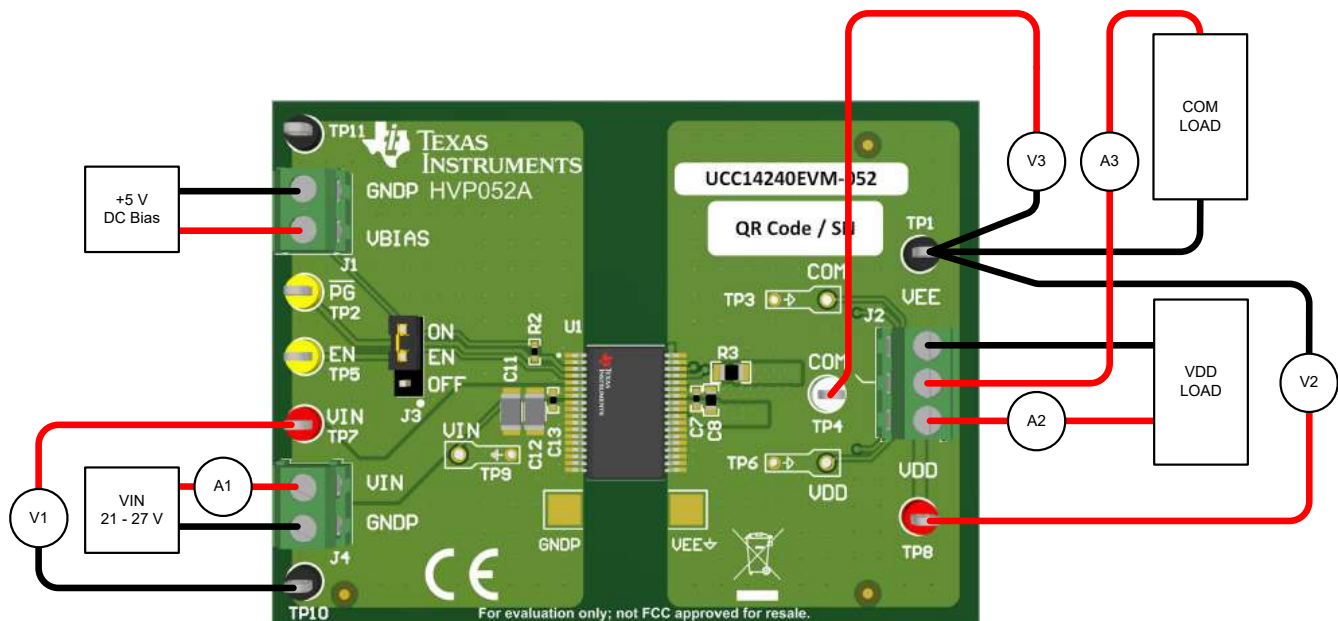

Figure 4-1. Typical Efficiency Measurement Setup
The UCC14240EVM-052 EVM uses screw terminals for quickly connecting to the V_{IN} , V_{DD} , and V_{EE} pins. Connecting the appropriate ammeters and voltmeters, as shown in Figure 4-1, allows accurate EVM efficiency measurements to be made.
4. Connect a variable load between J2:1 (V_{DD}) and J2:3 (V_{EE}). If using an electronic load, set to constant current (CC), 80 mA. Leave the load disabled until the EVM is powered.
5. Connect a second load between J2:2 (COM) and J2:3 (V_{EE}). If using an electronic load, set to constant current (CC), 10 mA. Leave the load disabled until the EVM is powered. Since the required load is small, a through-hole, 250-mW, 511- Ω load resistor can be connected between J2:2-3.
6. Some electronic loads are not be able to regulate/stabilize CC when setting in the low mA range. Monitor the input current and load currents by inserting ammeters, A2 and A3, as shown in Figure 4-1. Use a current probe with the oscilloscope to verify the stability of the DC current being regulated by an electronic load.